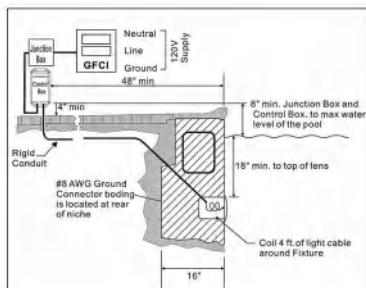

Figure 1
2. The junction box (or, for 120 volt models, the low voltage transformer) must be located at least eight(8) inches above water level, at least four (4) inches above ground level, and at least four (4) feet from the edge of the pool. See Figure 1.
3. The light fixture and all metal items within five(5) feet of the pool must be properly electrically bonded to a reliable point of grounding.
4. The wet niche must be properly installed so that the top edge of the underwater light's lens is at least 18 inches below the surface of the water in the pool. See Figure 1.
5. The wet niche must be properly electrically bonded and grounded via the No. 8 AWG ground connector located at the rear of the niche. See Figure 1.
1. Feed cord through conduit to junction box, leaving at least four (4) feet of cord at the light fixture to coil into the base of the light niche, see Figure 1. The four (4) feet of cord allows the light to be serviced after the pool is filled with water.
2. Cut the cord at the junction box, leaving at least six (6) inches of cord to make connections.
1. The lighting circuit must have a Ground Fault Circuit Interrupter (GFCI) for Controller. The junction box (or, for 12 volt models, the low voltage transformer) must be located at least eight(8) inches above water level, at least four (4) inches above ground level, and at least four (4) feet from the edge of the pool. See Figure 1.
2. The light fixture and all metal items within five(5) feet of the pool must be properly electrically bonded to a reliable point of grounding. The wet niche must be properly installed so that the top edge of the underwater light's lens is at least 18 inches below the surface of the water in the pool. See Figure 1. The wet niche must be properly electrically bonded and grounded via the No. 8 AWG ground connector located at the rear of the niche. See Figure 1.
4. Feed cord through conduit to junction box, leaving at least four (4) feet of cord at the light fixture to coil into the base of the light niche, see Figure 1. The four (4) feet of cord allows the light to be serviced after the pool is filled with water.
5. Cut the cord at the junction box, leaving at least six (6) inches of cord to make connections.